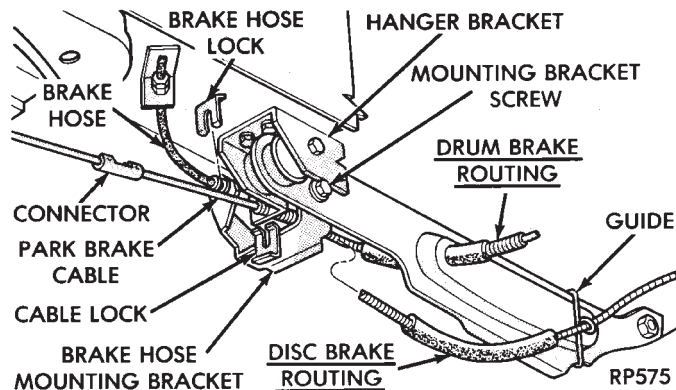

Fig. 1 Remove Brake Hose Mounting Bracket Screw and Park Brake Cable
(1) Raise vehicle (see Hoisting, Group 0). Remove brake hose mounting bracket screw (Fig. 1).
(2) Detach park brake cable at connector and from hanger bracket (Fig. 1).